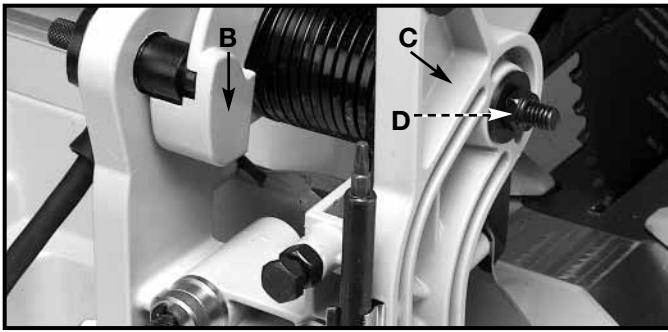

Fig. 35
After a period of time, an adjustment of the sliding fit between the cuttinghead arm (B) Fig. 35, and the trunnion (C) may be necessary. To adjust, tighten or loosen the nut (D). Correct adjustment provides a snug sliding fit between these two parts. This adjustment should not be so tight that it restricts the sliding movement of the cuttinghead arm (B) or so loose that it affects the accuracy of the saw cut.